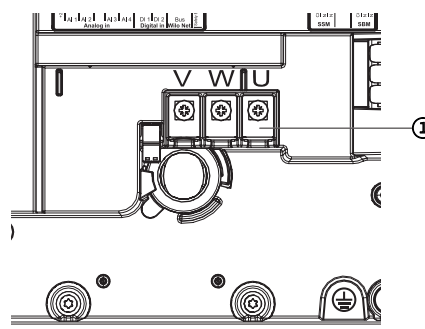

Fig. 114: Motor connection terminals V, W, U
5. Disconnect the motor connection cable (Fig. 114).